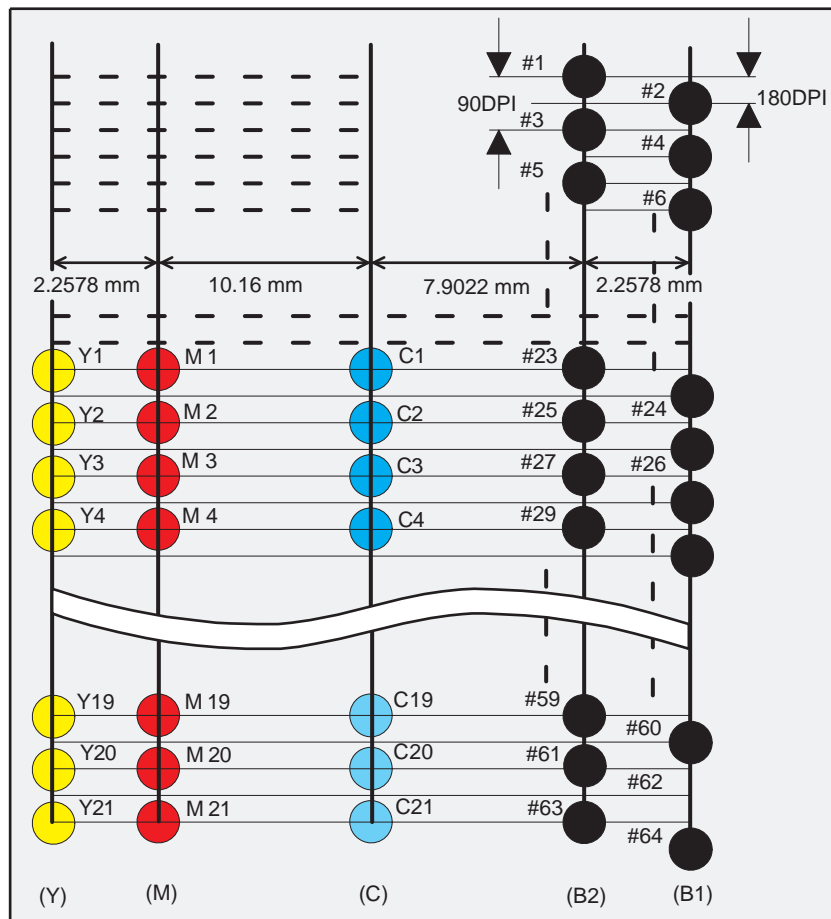

Figure 1-1. Nozzle Configuration for the Stylus COLOR 440
- Stylus COLOR 440 (see Figure 1-1):